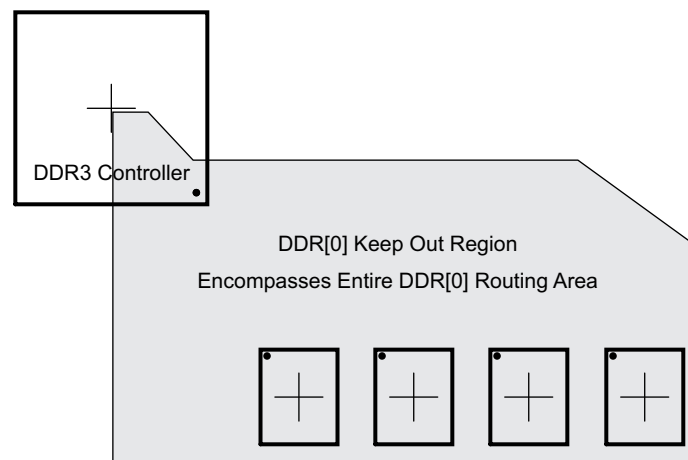

Figure 8-48. DDR3 Keepout Region
(2) Measurements from center of processor to center of DDR3 device.
(3) Minimizing X1 and Y improves timing margins.
(4) w is defined as the signal trace width.
(5) Non-DDR3 signals allowed within DDR3 keepout region provided they are separated from DDR3 routing layers by a ground plane.
The region of the PCB used for DDR3 circuitry must be isolated from other signals. The DDR3 keepout region is defined for this purpose and is shown in Figure 8-48. The size of this region varies with the placement and DDR routing. Additional clearances required for the keepout region are shown in Table 8-52. Non-DDR3 signals should not be routed on the DDR signal layers within the DDR3 keepout region. Non-DDR3 signals may be routed in the region, provided they are routed on layers separated from the DDR signal layers by a ground layer. No breaks should be allowed in the reference ground layers in this region. In addition, the 1.35-V/1.5-V DDR3L/DDR3 power plane should cover the entire keepout region. Also note that the DDR3 controller's signals should be separated from each other by the specification in item 5 (see Table 8-52 for item 5 specification).